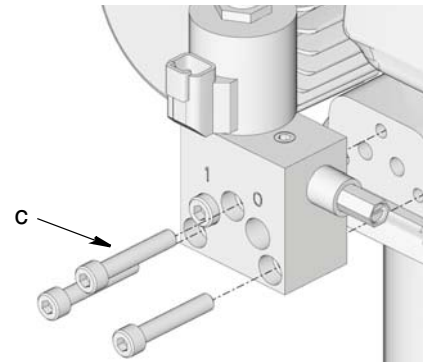

FIG. 4
5. Remove the 3 cap screws (c) securing the vent valve to the surface of the pump (FIG. 4).